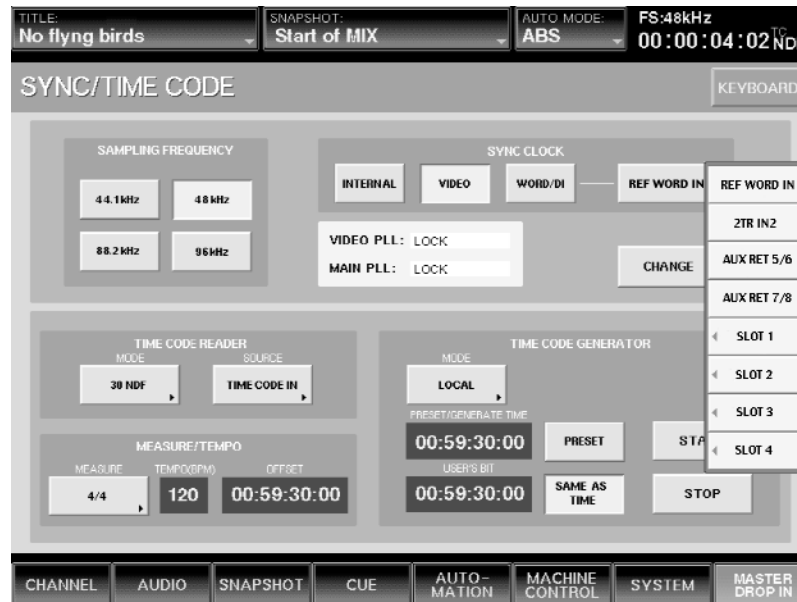

Figure 4
- 2 In the upper right-hand corner, select the master Sync Clock for your system. Options are: INTERNAL, VIDEO, and WORD DI. If using WORD DI (Digital Input), press the REF WORD IN button in order to select the reference source from the pull-down menu. (See Figure 4) The DMX-R100 is able to derive master clock from its word clock input (REF WORD IN), or from AES/EBU signal arriving at its 2TR IN2 or AUX RETURNS 5 - 8, or from digital signal arriving at any two channels of any expansion card slot providing digital audio input.